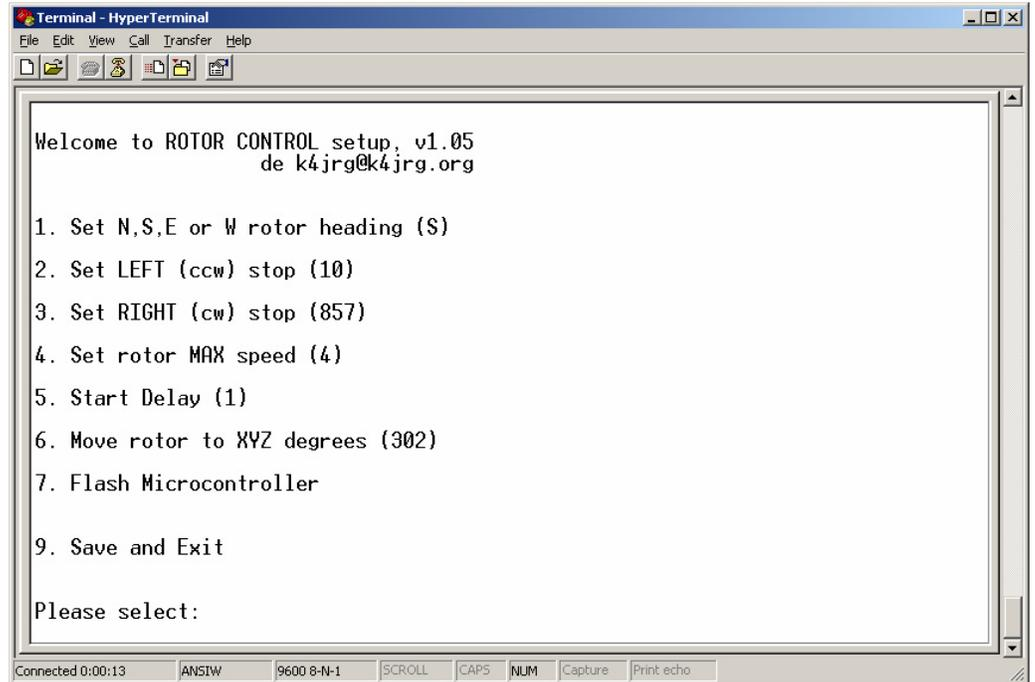

Figure 1. User Interface Main Menu. Activated with the **UI** command
2. Type the command **UI** and press Enter. You will be presented with the User Interface and calibration menu. See figure 1